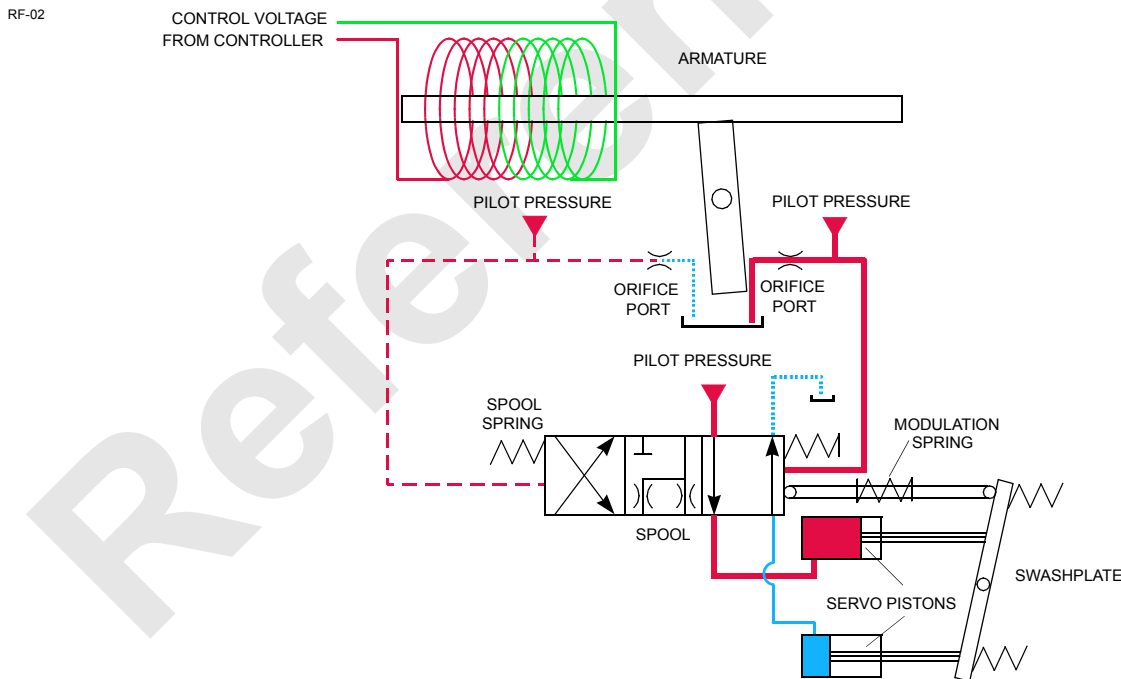
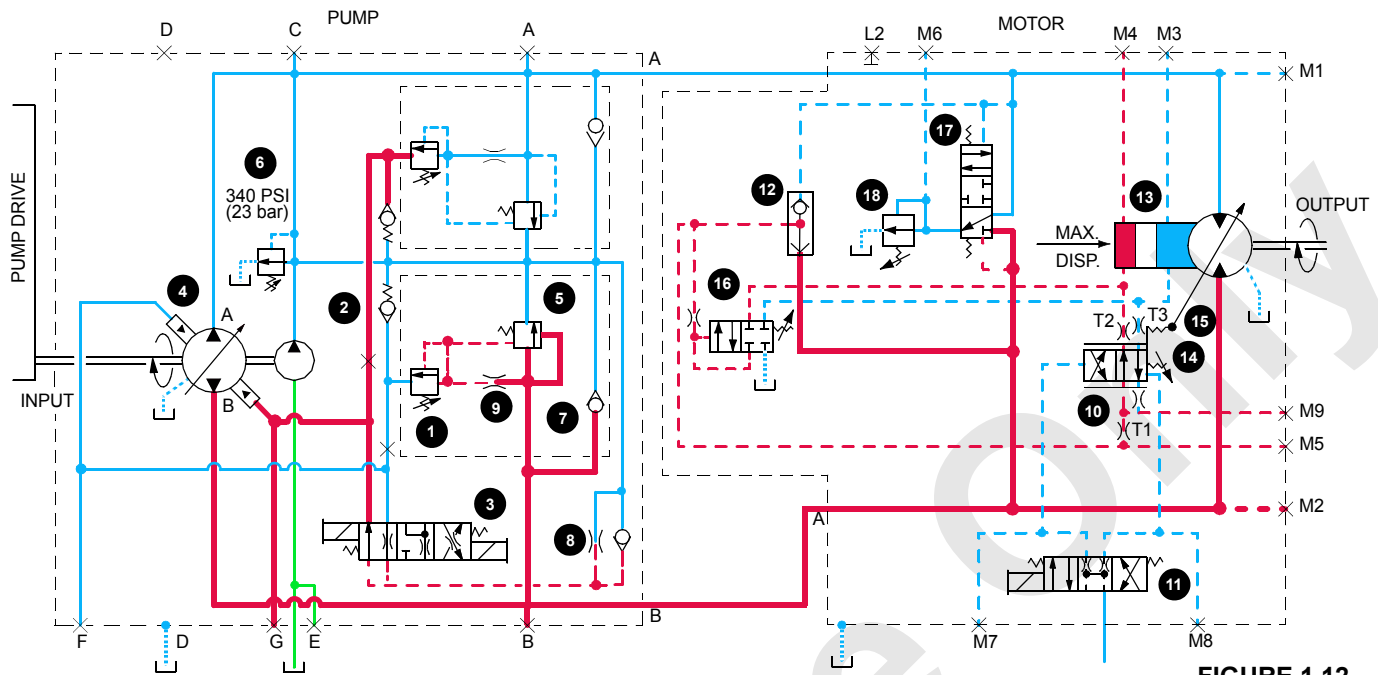

FIGURE 1-11
FIGURE 1-12
See Figure 1-11 or Figure 1-12 for the following procedure.
In travel pumps, the pressure relief and pressure-limiting sections of multifunction valves respond when relief pressure is reached. If travel pump pressure exceeds preset pressure limit, the pumps de-stroke to prevent overheating of system fluid. The hydraulic fluid pressure overcomes spring resistance in pressure limiting relief valve (1, Figure 1-12), shifting spool to open a line for fluid pressure. Servo check valve (2) is spring loaded with an opening pressure of 750 psi (52 bar). Hydraulic fluid from pressure limiting relief valve flows through exhaust port of displacement control valve (3). The exhaust port has a restricted orifice that develops pressure for servo control cylinder (4) to pressurize and de-strokes pump to limit system pressure. When rapid loading produces pressure spikes, system relief valve (5) shifts. This allows high-pressure fluid to return to tank through charge pump relief valve (6). Alternatively, fluid transfers to low-pressure side of closed-loop system through charge flow make-up check valve (7).